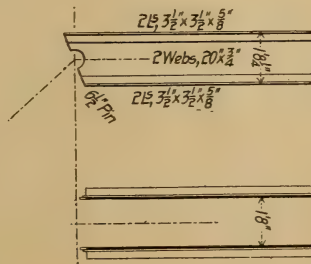

FIG. 3.
4. An inclined end post, shown in Fig. 3, carries a total stress of 440 000 lb. The web is $\frac{3}{8}$ in. thick, and there is only room for one $\frac{1}{2}$ -in. pin plate or hinge plate on the inside of each web. Assuming 18 000 lb. per sq. in. to be the permissible limit for bearing on pins, 7 500 lb. per sq. in. to be the limit for shear of rivets and 15 000 lb. per sq. in. to be the limit for bearing on rivets, calculate the size and number of pin plates, the number of $\frac{3}{8}$ -in. rivets required, and show their arrangement for a $6\frac{1}{2}$ -in. pin.
3. In pony truss, Fig. 3, find maximum strain in members 1-3 and 1-4 for loads, as per diagram, moving over bridge.